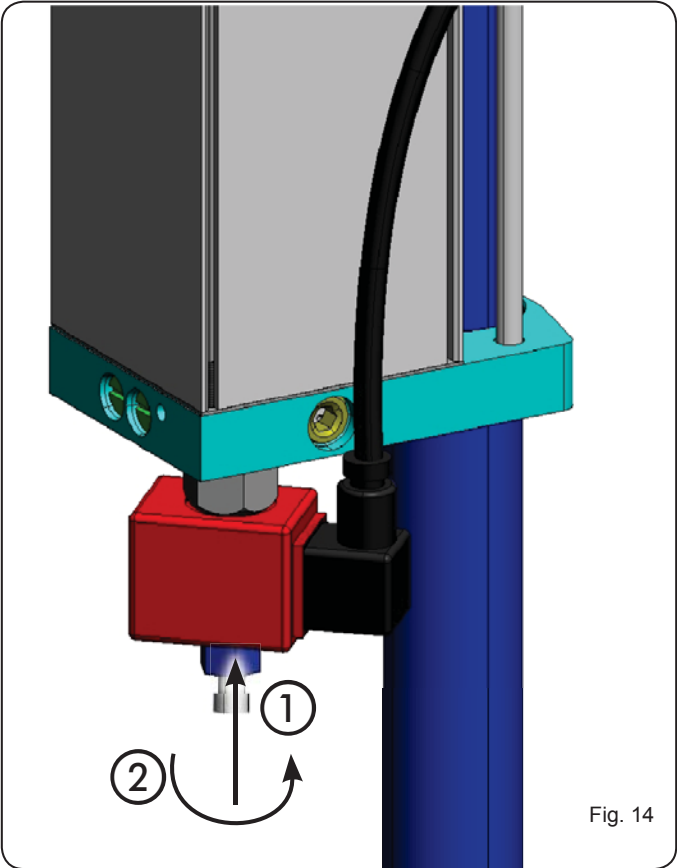

Fig. 14
- 2. press completely the pin at sight on the solenoid valve (fig. 14 ref. ①)
- 3. turn the pin to end of stroke as shown in figure (fig. 14 ref. ②).